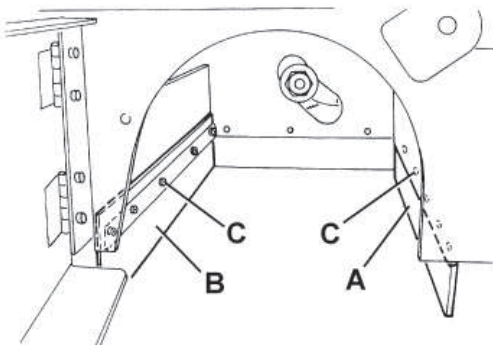
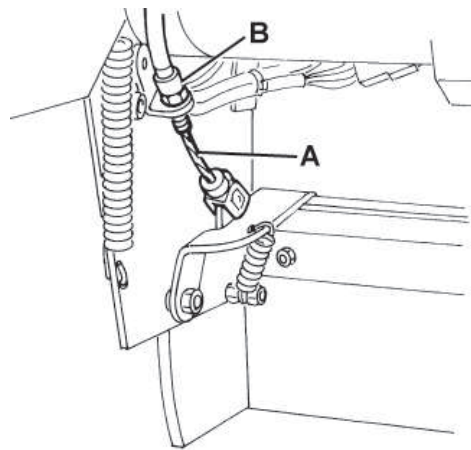
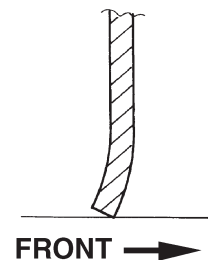

Figure 22
Figure 23
Figure 24
9. Check the front (A, Fig. 22) and rear skirts (B) for integrity.
10. Check that the front (A, Fig. 22) and rear skirts (B) slightly rub on the floor (see Fig. 24).
If necessary, loosen the screws (C, Fig. 22) and adjust the skirt position. Then tighten the screws (C).
11. Press the front skirt lifting pedal (75) completely, and check that the front skirt lifts 5 cm approximately.
Release the pedal and check that the skirt does not remain in an intermediate position but returns to its initial position. If necessary, adjust the skirt lifting cable (A, Fig. 23) with the adjuster (B) on the left front side of the skirt (for the front skirt control cable replacement, see the Service Manual).